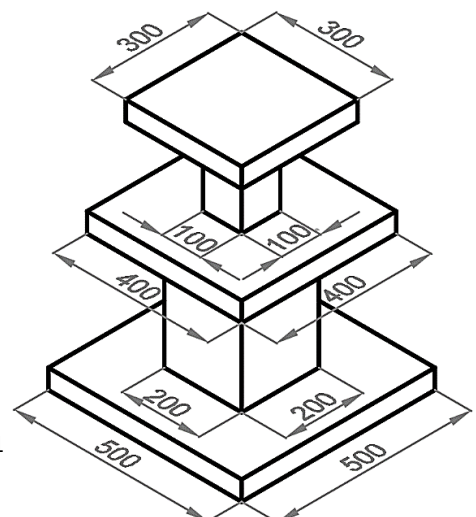
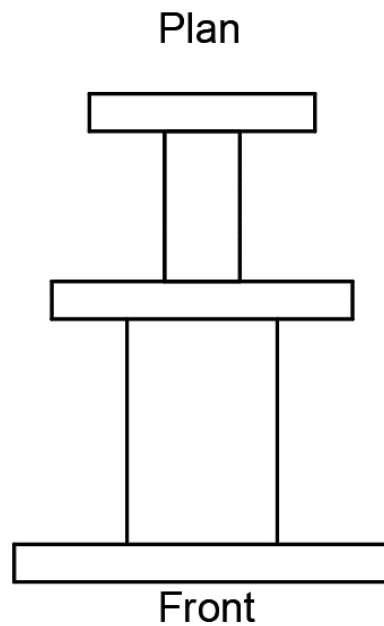

Figure 1
Figure 2
13. Figure 1 shows a 3D design of a shop display for a new line of eyeglasses from a famous designer brand.
a. Name the 3D pictorial projection technique that was used to draw Figure 1.
- b. Underline **ONE** of the following statements which best describes the 3D pictorial projection technique used in Figure 1:
- iii. A 3D drawing showing faces going towards the vanishing points. (1)
- c. Figure 2 shows an incomplete orthographic projection of the shop display in Figure 1. On Figure 2, complete the orthographic projection by drawing the Plan. The plan should be proportional and include overall dimensions and hidden detail.
14. The shop display shown in Figure 1 is made of manufactured wood.